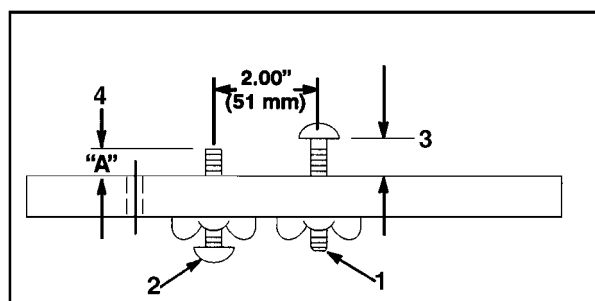

Figure 10
98-1852 (Fig. 10). The first screw is set for height of cut, and the second screw is set for cutting unit attitude. The second screw setting is an easy method of transferring cutting unit attitude to all cutting units on a machine.
1. Using a two-screw gauge bar, Toro part no. 98-1852, set the first screw to the desired height of cut. This setting is from the bar face to the underside of the screw head (Fig. 10).